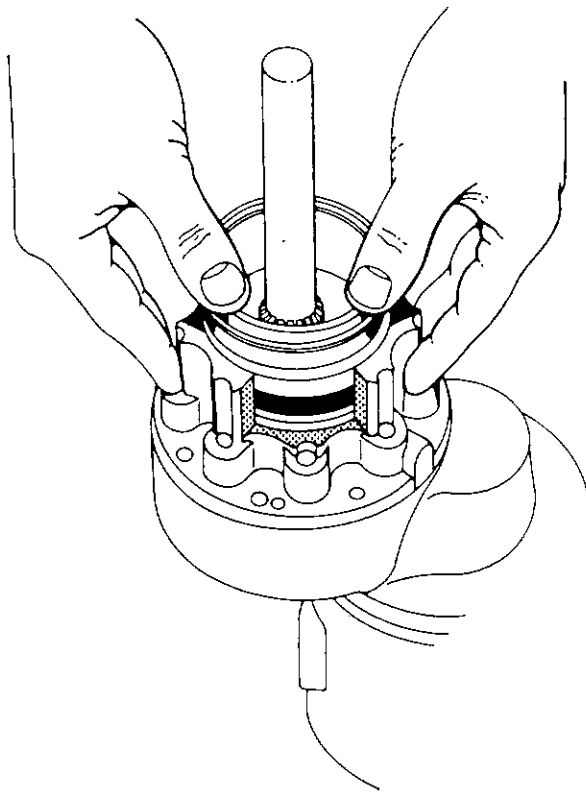

Figure 5.22
12. Install new inner (21) and outer (20) drive housing seals. Install new upper drive housing seal (23).
13. Apply Lithium base grease to both faces of thrust washer (8) and place thrust washer on drive shaft assembly (28).
14. Position the drive housing (24) according to scribe marks and gear case pin (22), align drive shaft gear (9) teeth with rotor pinion and push drive shaft (28) into gear case bearing (7).
15. Install the nine drive housing screws (26) and lockwashers (25) and torque to 97 - 109 in. lbs. (11.1 to 12.3 N·m).
16. Lubricate the splines and plain end of drive shaft assembly (28) with low temperature Lubriplate grease.
17. Install a new actuator piston seal (18) on actuator (19). After seal is in place, install a new piston actuator ring (17) over piston seal. Apply a coat of low temperature Lubriplate grease to actuator ring.
18. With the actuator ring end facing the bearing retainer (14), insert the actuator piston into the drive housing (24) as far as possible. See Figure 5.22.